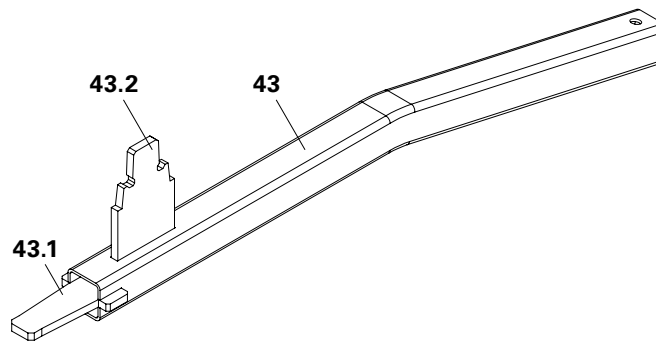

Fig. A13.03
The Magnet Cone Spanner MX 15/MX 18 (43) is used for dismantling Magnet Cones. (Fig. A13.03)